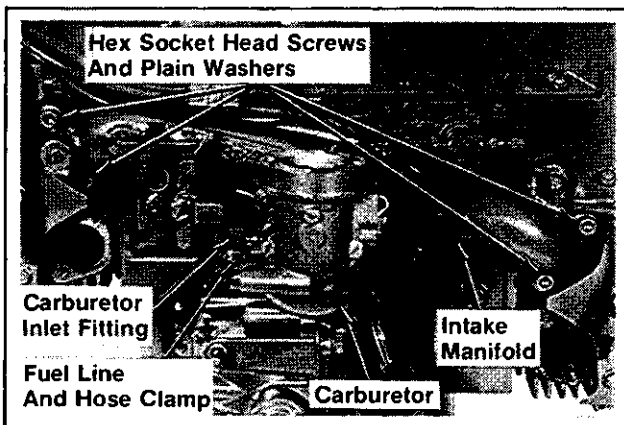

Figure 11-51. Installing Intake Manifold With Carburetor.
3. Install the gaskets, intake manifold with carburetor, plain washers, and hex socket head screws. Torque screws to **150 in. lb.** Refer to Figure 11-51.